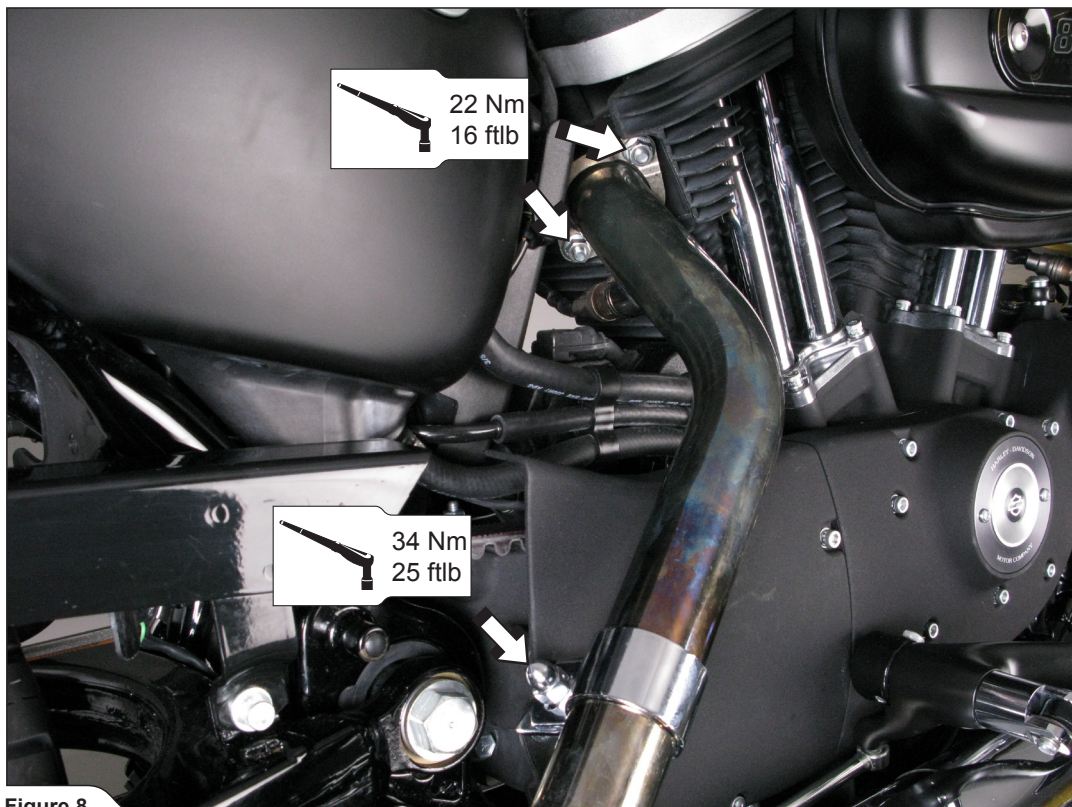

Figure 8
- Tighten the headers' flanges on both header pipes and original rear header's clamp onto Akrapovič bracket, using original bolt, washer and nut (Figure 8, 9).